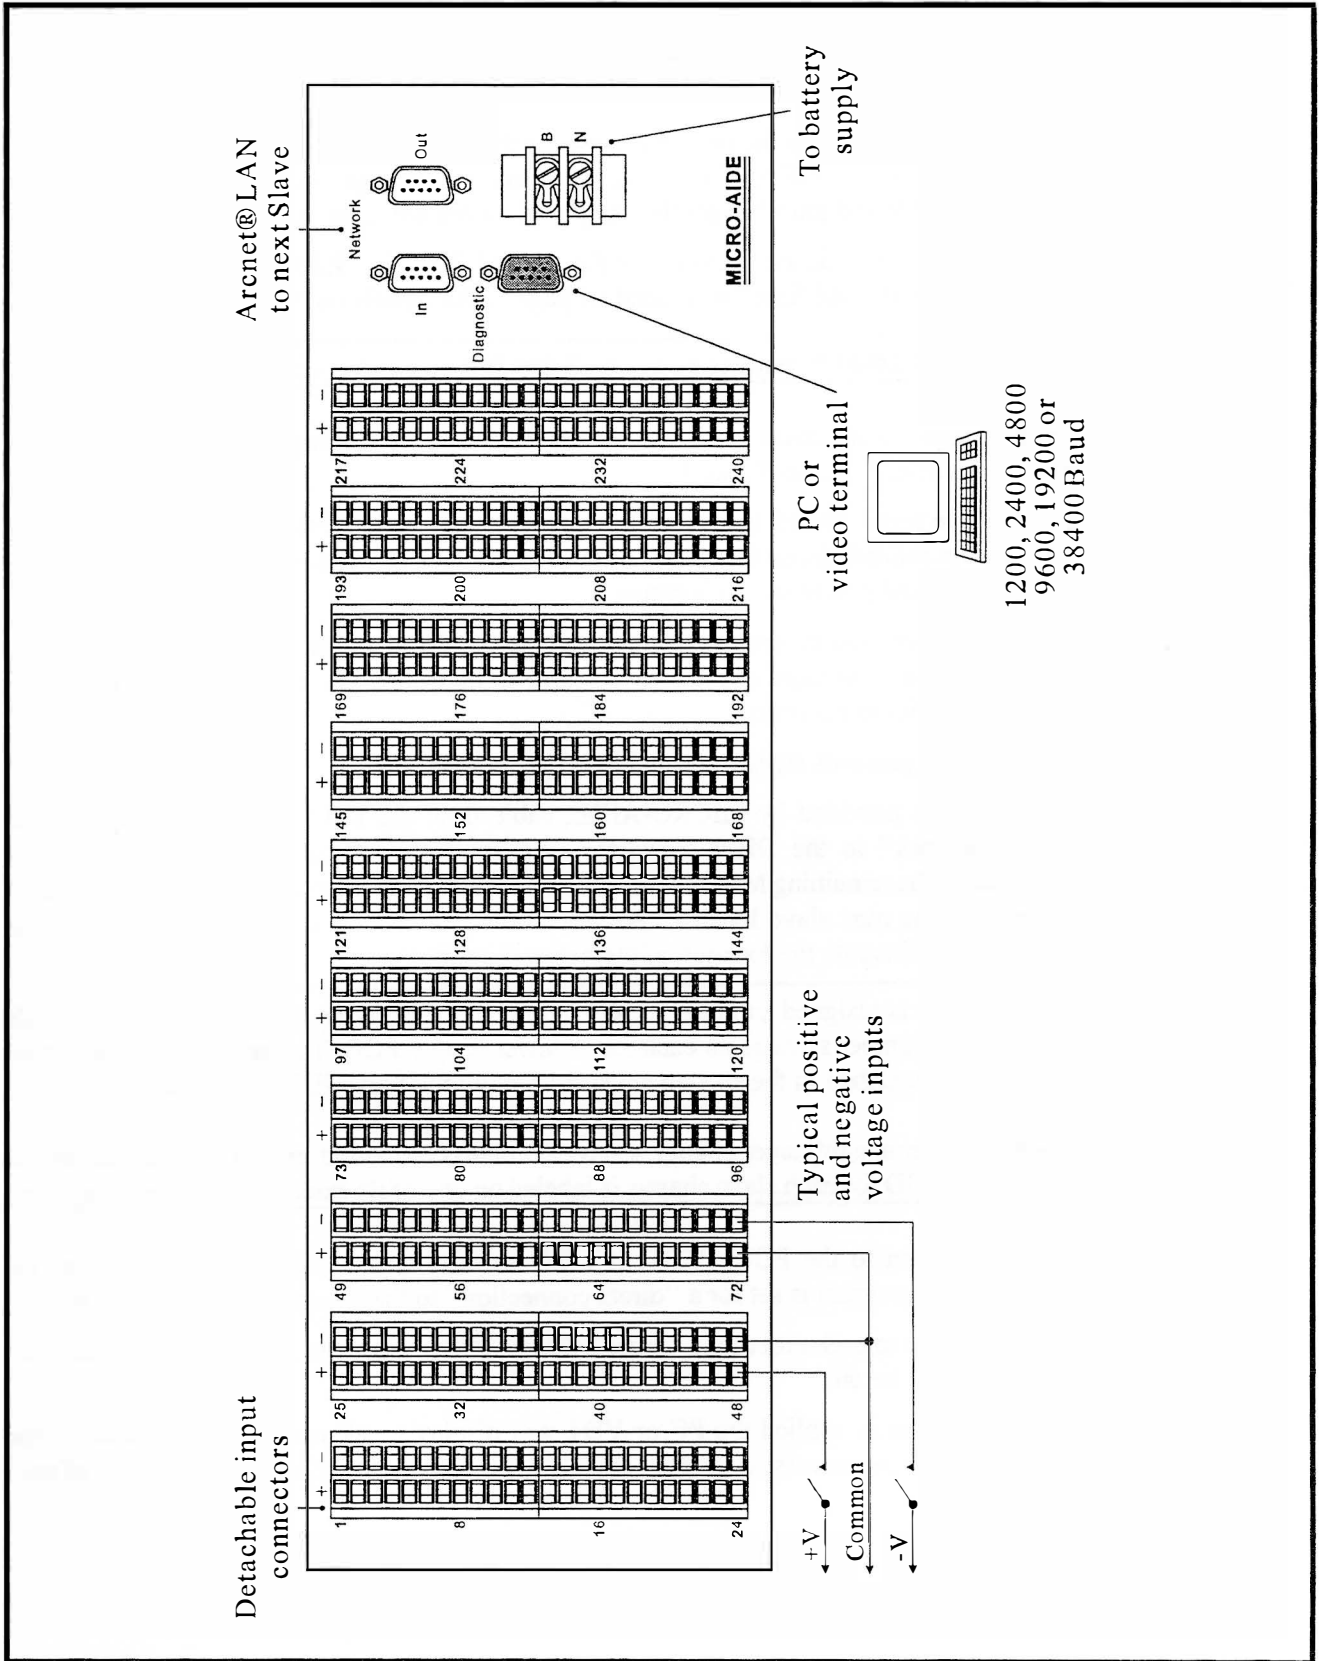

Figure 6
- Connect the power source ground to the screw terminal at the rear of the unit labeled “N”. Connect the positive voltage of the power source to the screw terminal at the rear of the unit labeled “B”. Refer to Figure 6.